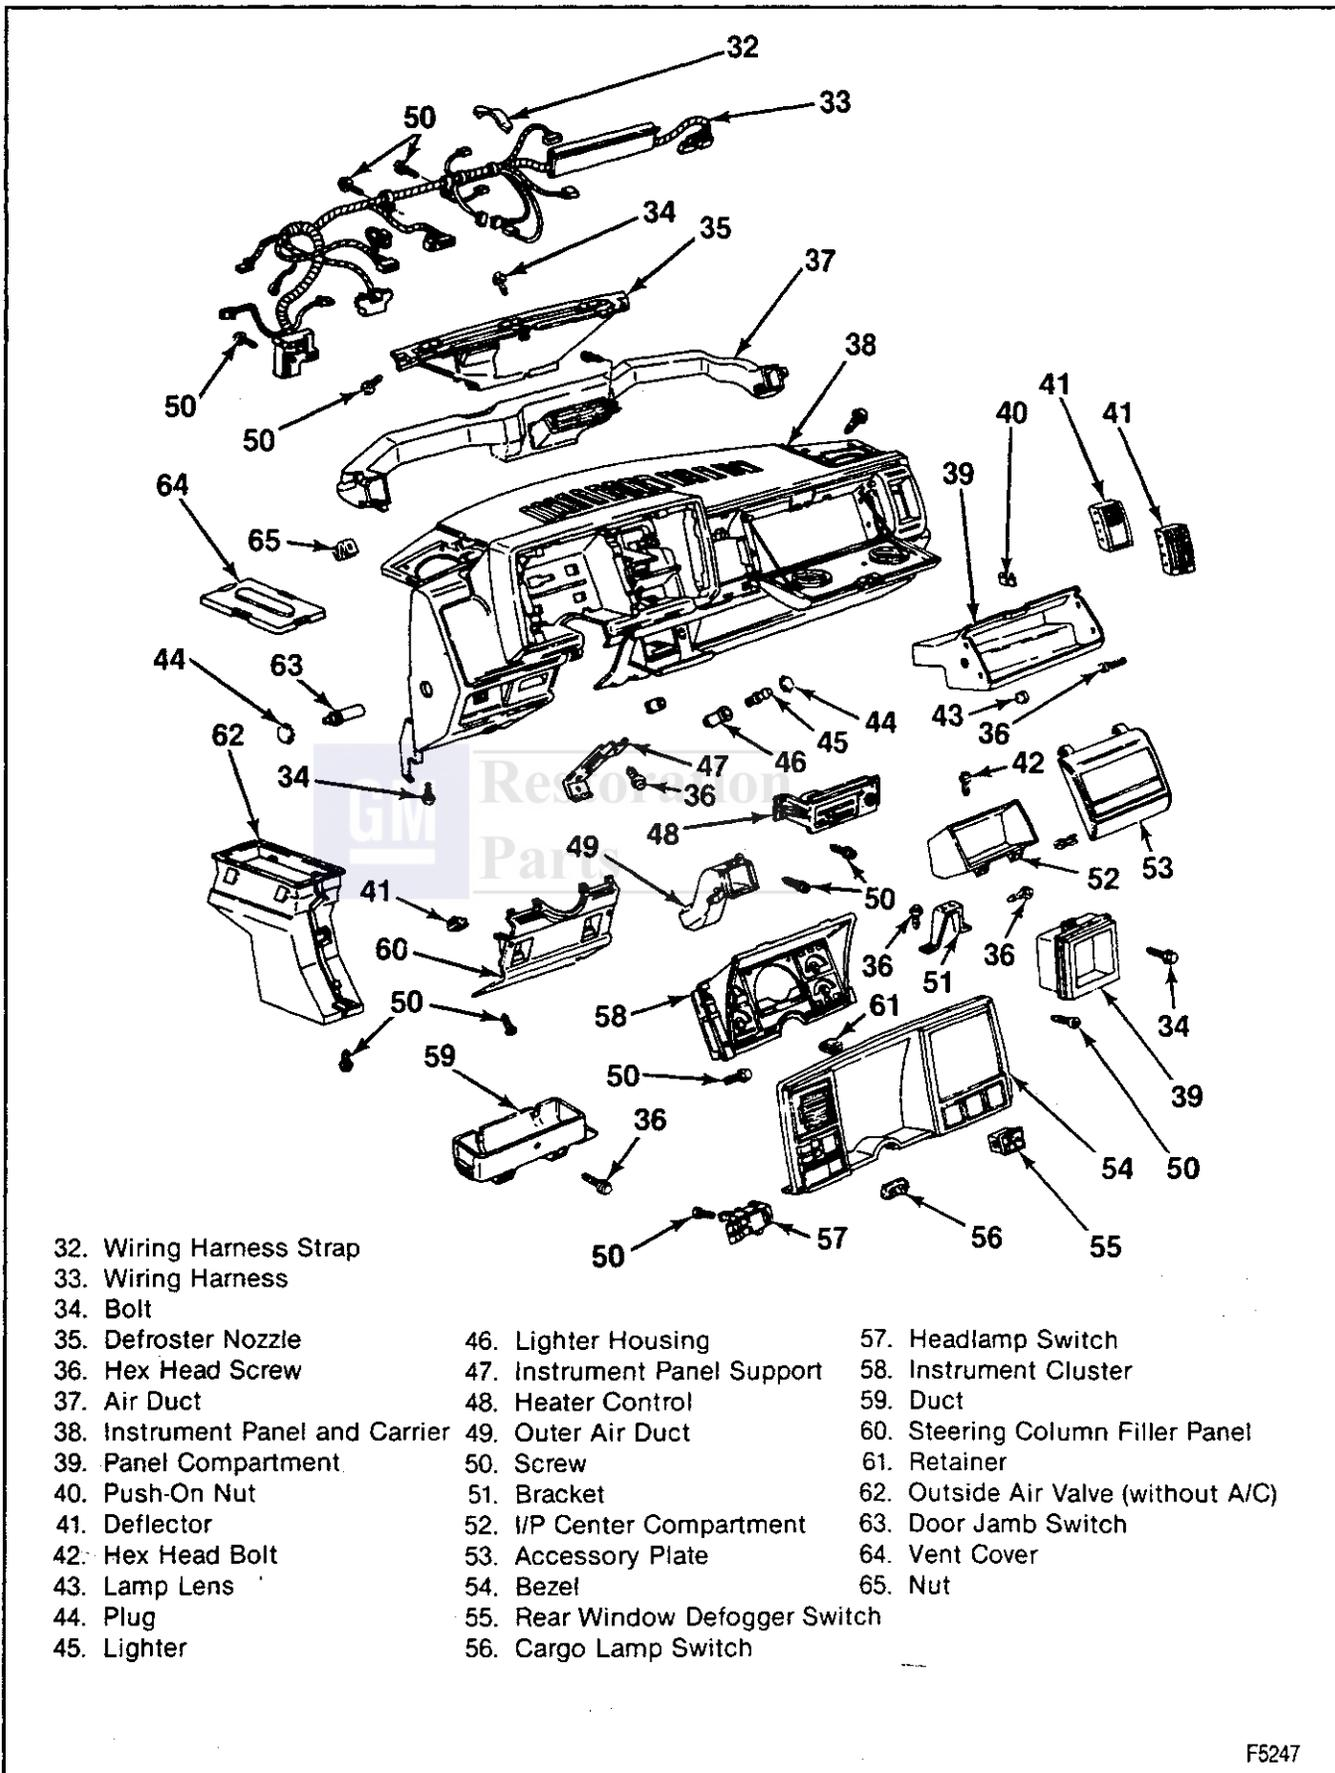

Figure 2—Instrument Panel and Carrier Assembly
Remove or Disconnect (Figures 2 through 6)
17. Heater control (figure 2).
18. Two screws retaining the steering column filler panel (figure 2).
22. Air duct and two bolts (figure 2).
Install or Connect (Figures 2 through 6)